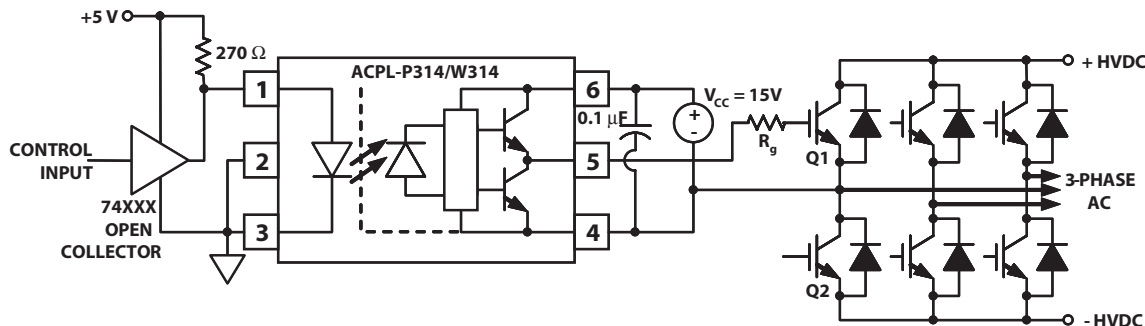
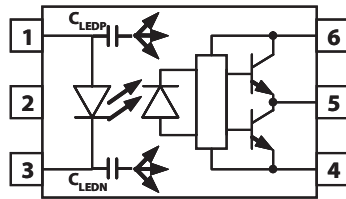
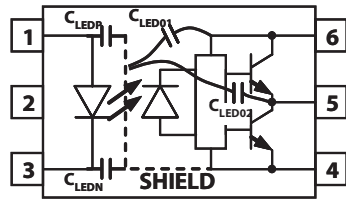
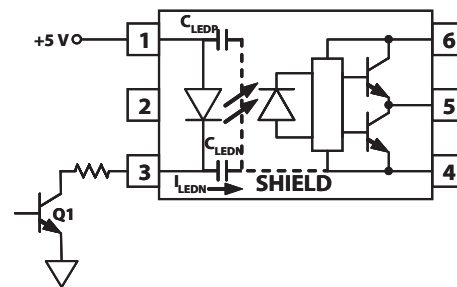

Figure 19. Recommended LED Drive and Application Circuit for ACPL-P314/W314
Figure 21. Optocoupler Input to Output Capacitance Model for Unshielded Optocouplers.
Figure 22. Optocoupler Input to Output Capacitance Model for Shielded Optocouplers.
Figure 24. Not Recommended Open Collector Drive Circuit.
To keep the IGBT firmly off, the ACPL-P314/W314 has a very low maximum  $V_{OL}$  specification of 1.0 V. Minimizing  $R_g$  and the lead inductance from the ACPL-P314/W314 to the IGBT gate and emitter (possibly by mounting the ACPL-P314/W314 on a small PC board directly above the IGBT) can eliminate the need for negative IGBT gate drive in many applications as shown in Figure 19. Care should be taken with such a PC board design to avoid routing the IGBT collector or emitter traces close to the ACPL-P314/W314 input as this can result in unwanted coupling of transient signals into the input of ACPL-P314/W314 and degrade performance. (If the IGBT drain must be routed near the ACPL-P314/W314 input, then the LED should be reverse biased when in the off state, to prevent the transient signals coupled from the IGBT drain from turning on the ACPL-P314/W314.
Step 1: Calculate  $R_g$  minimum from the  $I_{OL}$  peak specification. The IGBT and  $R_g$  in Figure 19 can be analyzed as a simple RC circuit with a voltage supplied by the ACPL-P314/W314.
where  $K_{ICC} \cdot Q_g \cdot f$  is the increase in  $I_{CC}$  due to switching and  $K_{ICC}$  is a constant of 0.001 mA/(nC\*kHz). For the circuit in Figure 19 with  $I_F$  (worst case) = 10 mA,  $R_g = 32 \Omega$ , Max Duty Cycle = 80%,  $Q_g = 100$  nC,  $f = 20$  kHz and  $T_{AMAX} = 85^\circ\text{C}$ :
Without a detector shield, the dominant cause of optocoupler CMR failure is capacitive coupling from the input side of the optocoupler, through the package, to the detector IC as shown in Figure 21. The ACPL-P314/W314 improves CMR performance by using a detector IC with an optically transparent Faraday shield, which diverts the capacitively coupled current away from the sensitive IC circuitry. However, this shield does not eliminate the capacitive coupling between the LED and optocoupler pins 5-8 as shown in Figure 22. This capacitive coupling causes perturbations in the LED current during common mode transients and becomes the major source of CMR failures for a shielded optocoupler. The main design objective of a high CMR LED drive circuit becomes keeping the LED in the proper state (on or off) during common mode transients. For example, the recommended application circuit (Figure 19), can achieve 10 kV/μs CMR while minimizing component complexity.
The open collector drive circuit, shown in Figure 24, can not keep the LED off during a  $+dV_{CM}/dt$  transient, since all the current flowing through  $C_{LEDN}$  must be supplied by the LED, and it is not recommended for applications requiring ultra high CMR1 performance. The alternative drive circuit which like the recommended application circuit (Figure 19), does achieve ultra high CMR performance by shunting the LED in the off state.